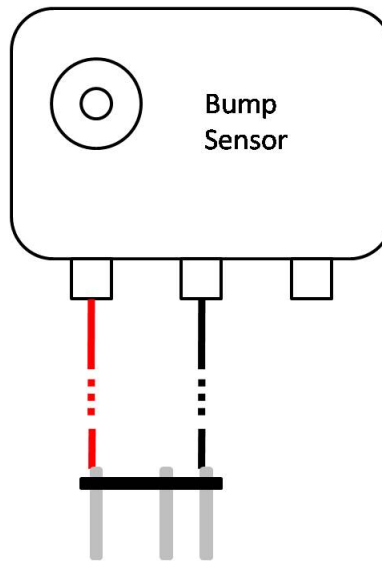

Figure 1: Bump sensor schematic
1. Solder together your bump sensors. See Figure 1